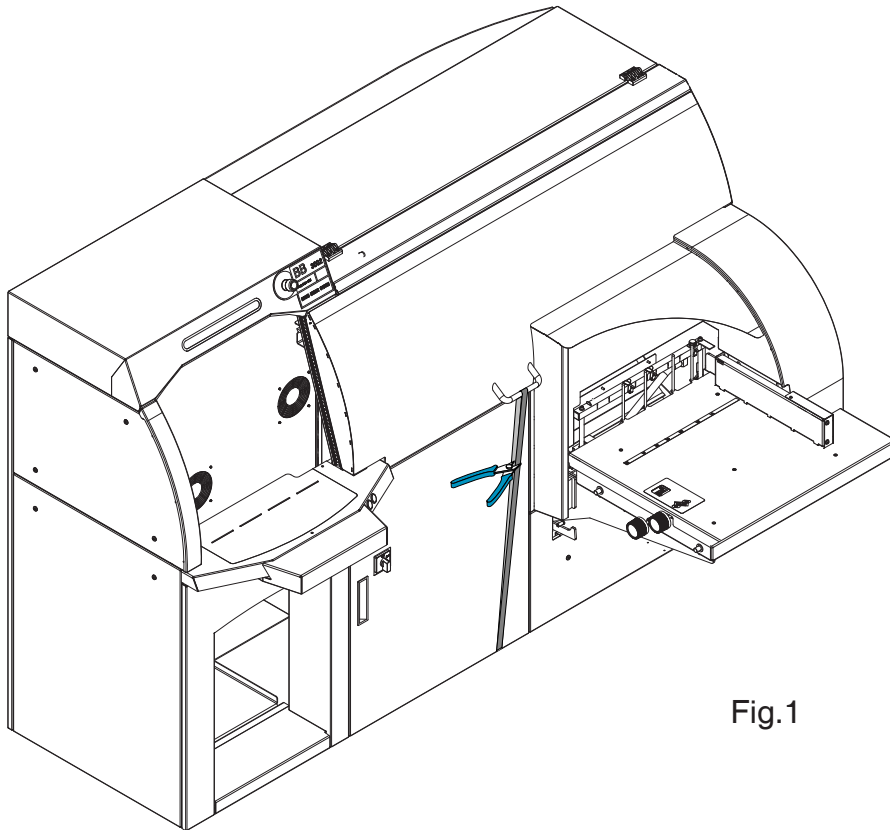

Fig.1
- Cut the tie wrap and open plexi top cover (Fig.1).